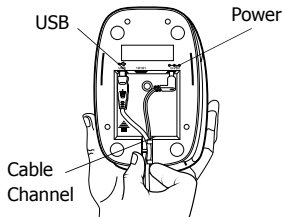

Figure 5
- 2 Plug the power adapter into the power connector on the bottom of the printer. See Figure 5. Make sure to push the plug in completely.
- 1 Plug the USB cable into the USB port on the bottom of the printer. See Figure 5.